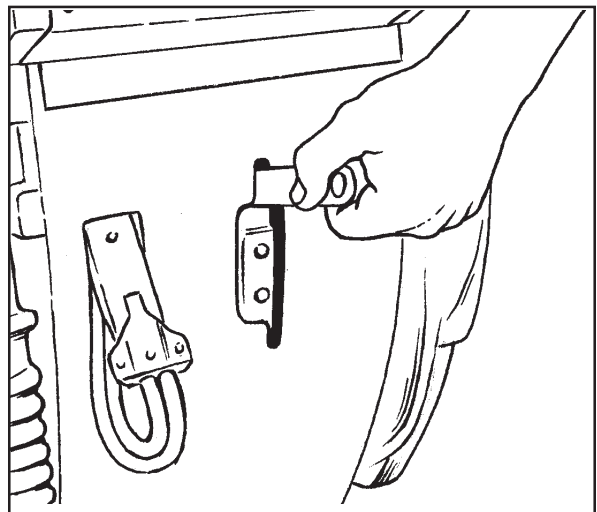

Figure 19
2. To raise the squeegee, lift the squeegee lever up. See figure 19.